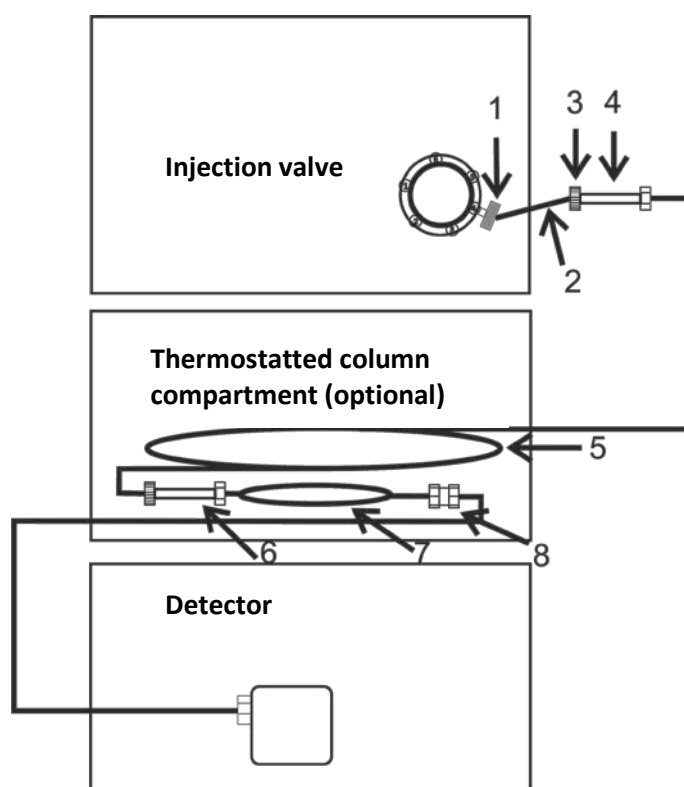

Figure 1: Restriction tubing installed between injection valve and detector
2. Connect the restriction tubing (no. 5 in Figure 1, page 23) directly to the injection valve (Viper™ fitting system) and the UV detector (Viper fitting system). Depending on the the HPLC system, additional components must be installed in the flow path:
Connect one of the following device pairs with the PEEK tubing (no. 2 in Figure 1) and the union fittings (no. 4 in Figure 1) from the Performance Qualification kit:
- ◆ Injection valve and restriction tubing (no. 5 in Figure 1)
- ◆ Restriction tubing (no. 5 in Figure 1) and detector
For a qualification at a pressure of 850 bar, connect a high-pressure restriction tubing in series with a Viper union (no. 6 in Figure 1).
To protect the flow cell, install a filter frit between the outlet of the restriction tubing (no. 5 or 7 in Figure 1) and the inlet capillary of the flow cell.